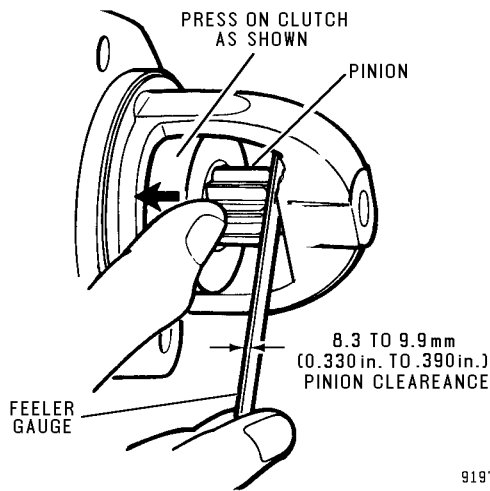

FIGURE 2-11. CHECKING PINION CLEARANCE
4. The distance between the drive pinion and housing must be between 8.3 mm to 9.9 mm (0.330 to 0.390 in.) as shown in Figure 2-11.